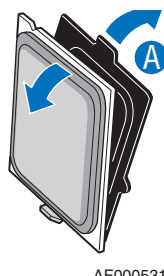

Figure 12. Removing the Shipping Cover
7. Take the processor out of the box and remove the protective shipping cover (see Figure 12).